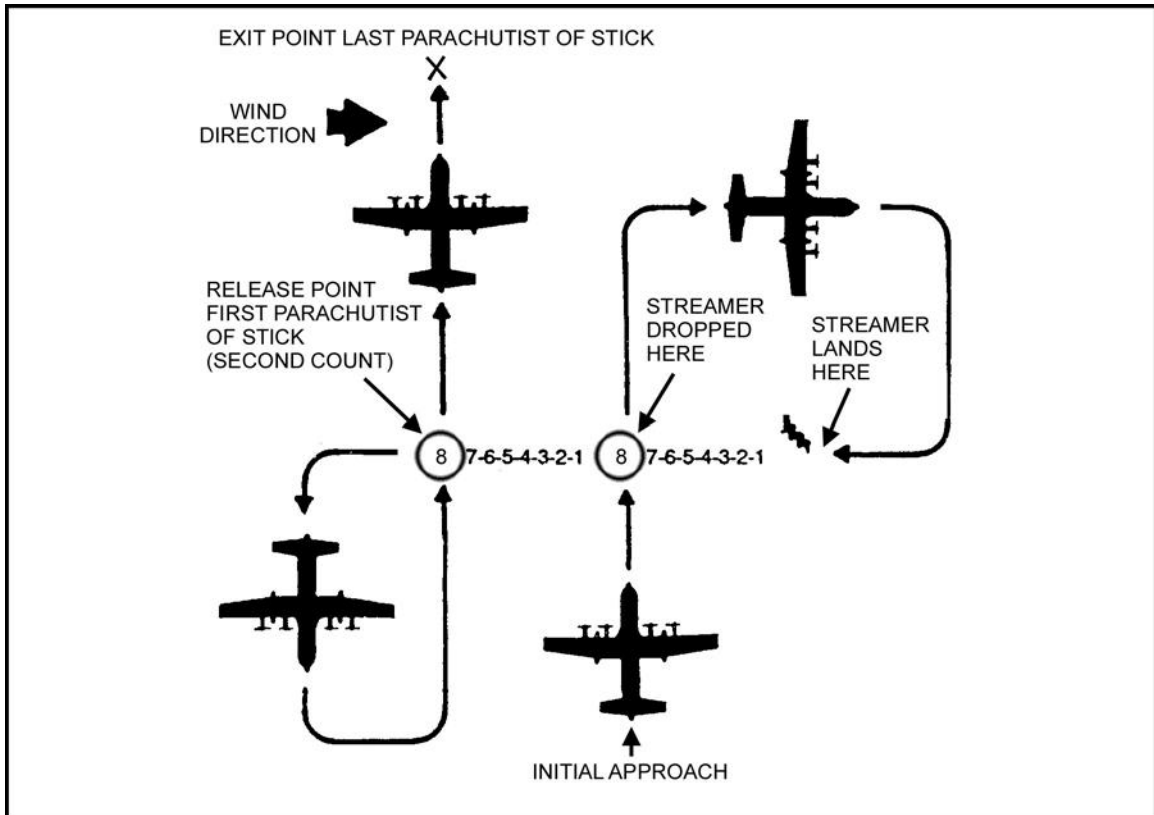

Figure 21-1. Determination of the release point by WSVC.
a. **Wind Streamer Vector Count.** The WSVC method (Figure 21-1) is used when the release point is determined from the air. It is normally jumpmaster-executed and does not require markings to be placed on the DZ.